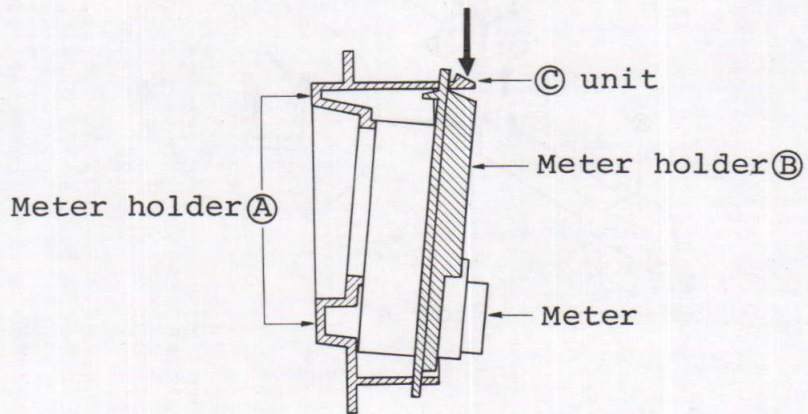

Fig. 3
Lower two places on the (C) unit of the meter holder (A) shown in Fig. 3 in the direction of the arrow and sort of push meter holder (B) upward. Then meter holder (B) will come off the meter holder (A) and the meter can be removed.